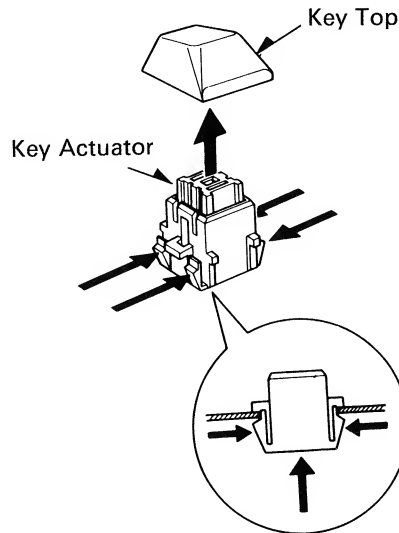

Fig. 4
4. Each key actuator can be removed from the keyboard frame by pushing its stopper claws inward. (See Fig. 4.)